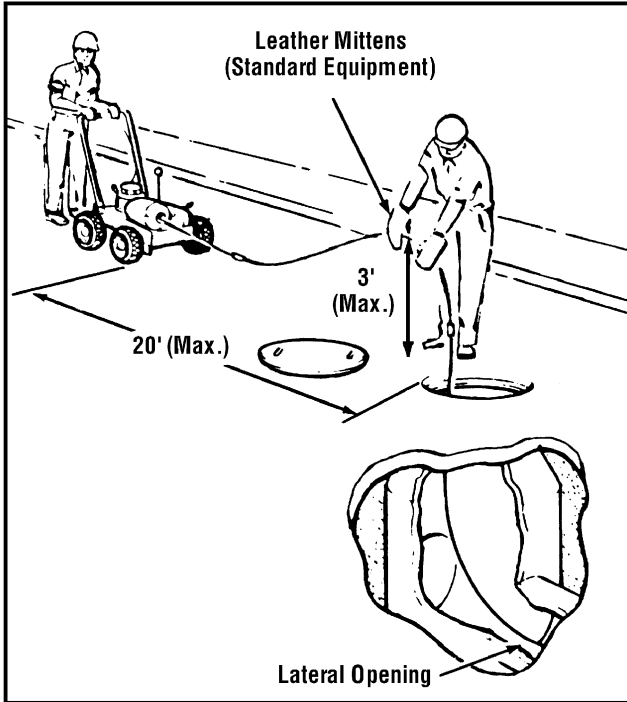

Figure 3 – Operating Rodder
▲ WARNING Always follow the correct operating procedure in order to maintain proper control of the machine and rods and prevent serious injury (Figure 3).
11. As machine is pushed forward, the rod handler should push downward on rod with rod guided between thumbs and palms of hands with fingers extended (Figure 3).